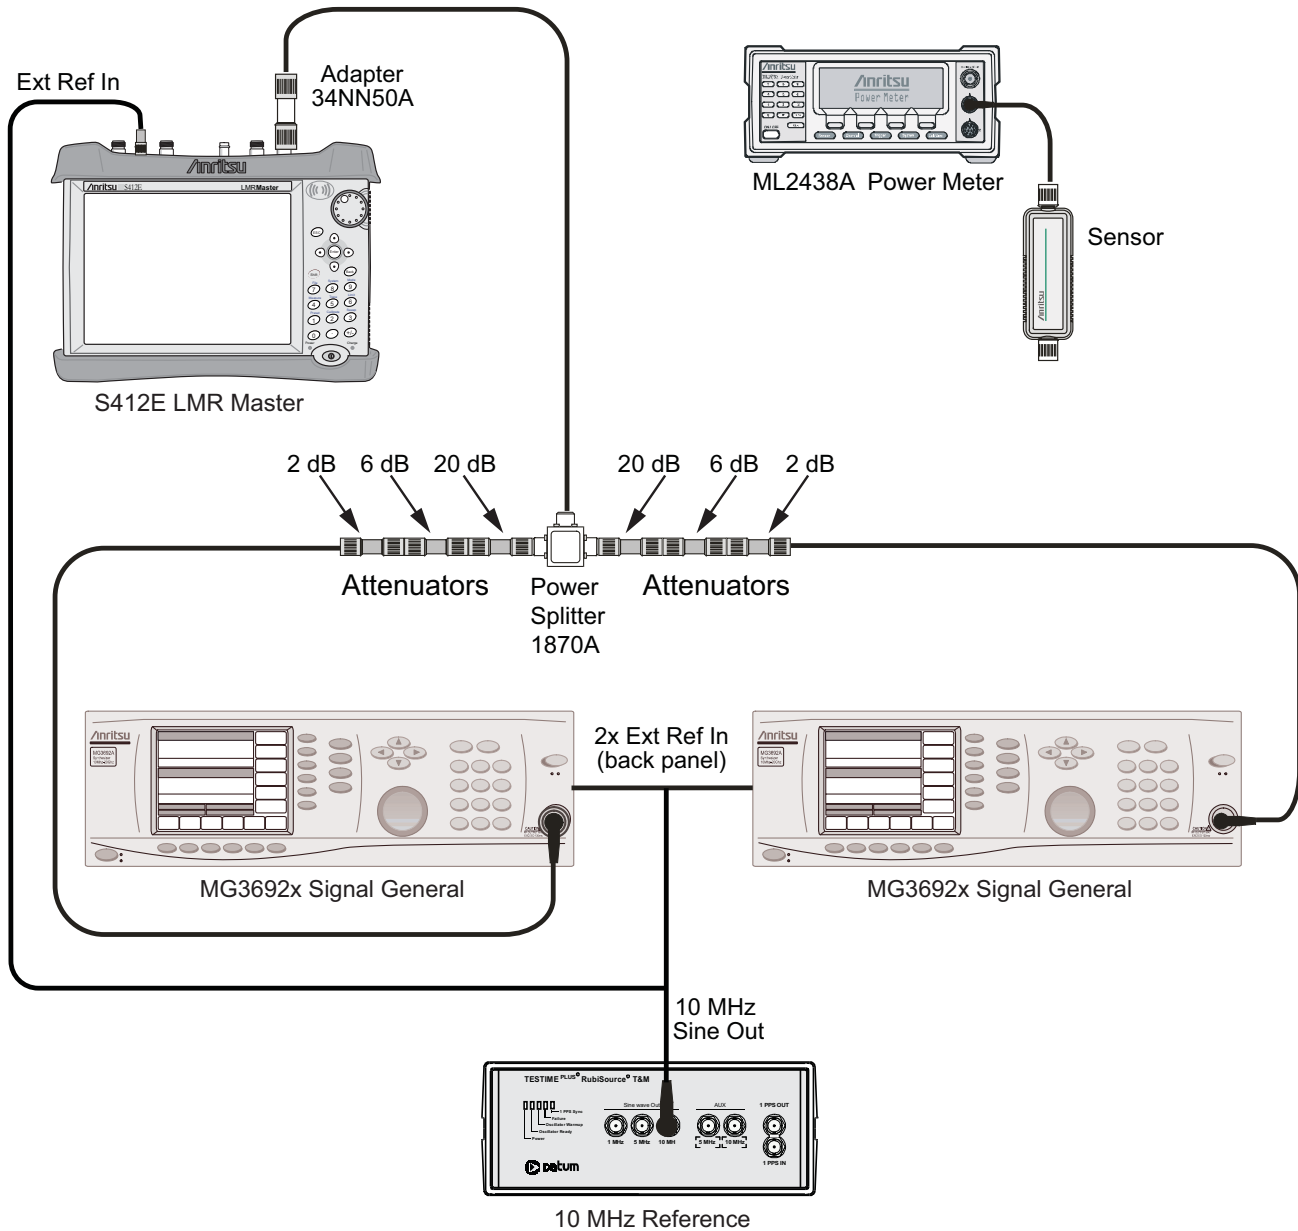

Figure 3-4. Third Order Intercept (TOI) Measurement Setup
14. Disconnect the power sensor from the output of the power splitter and connect the power splitter output to the S412E RF In connector through the Anritsu Model 34NN50A adapter as shown in Figure 3-4.
9. Disconnect the power sensor from the output of the power splitter and connect the power splitter output to the S412E RF In connector through the Anritsu Model 34NN50A adapter. Refer to Figure 3-4 on page 3-20.
12. Press the **Shift** key and then the **Trace** (5) key. Press Trace A Operations, and set # of Averages to 2.